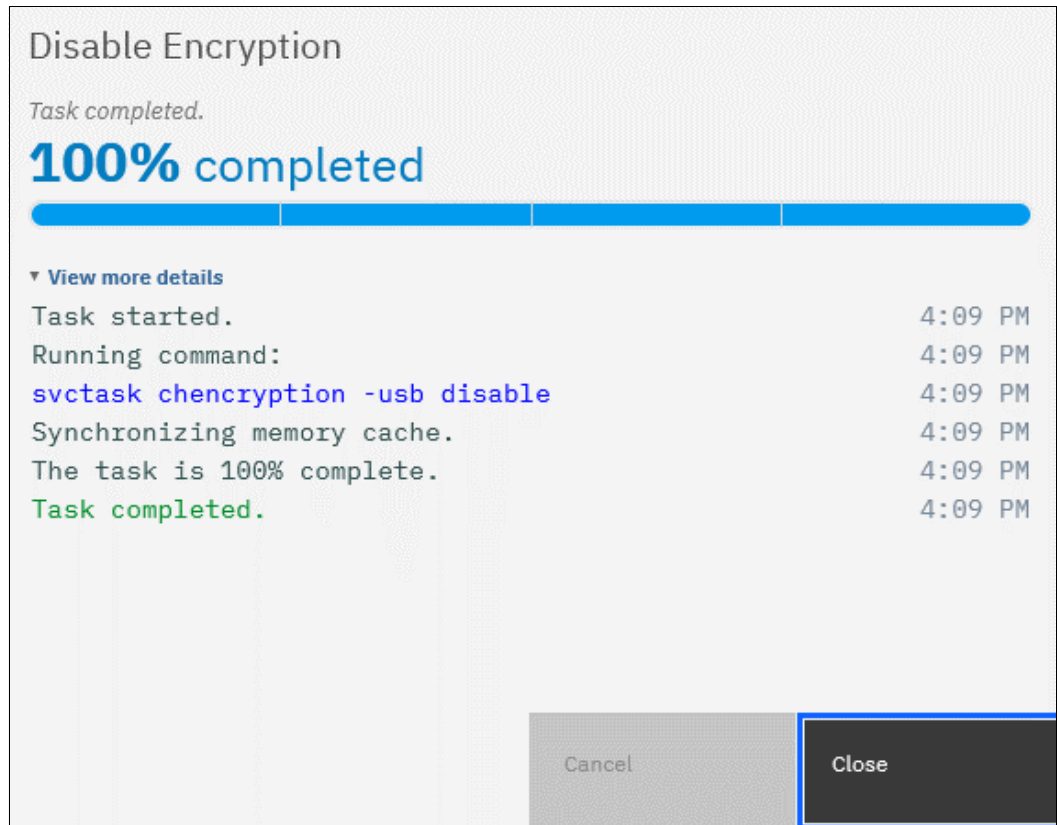

Figure 12-76 Encryption disabled
2. You receive a message confirming that encryption was disabled. Figure 12-76 shows the message when a key server is used.